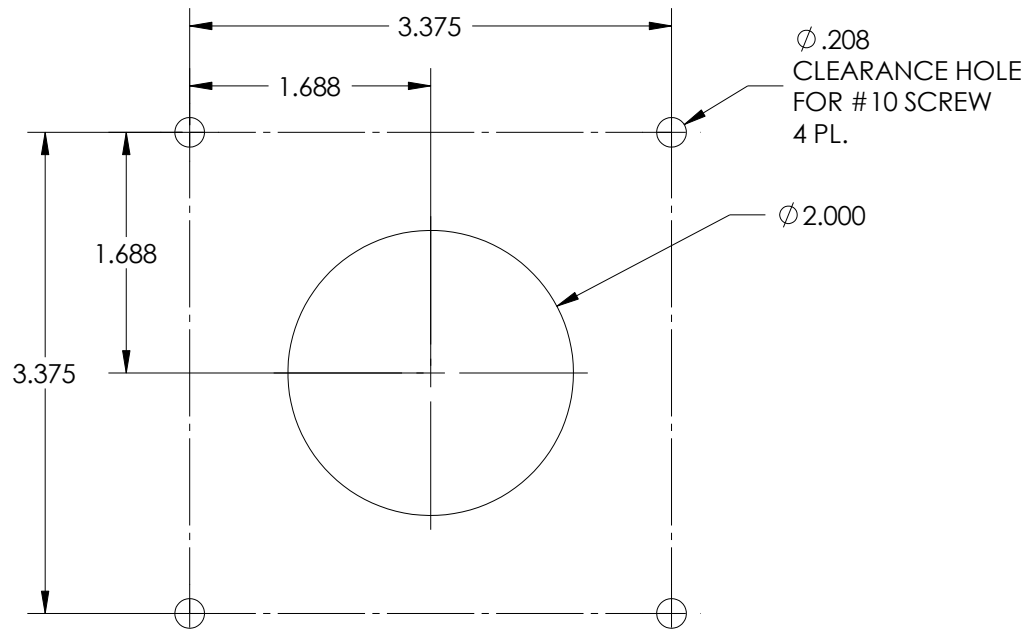

Figure 7 – Command & Control Center Mounting Pattern
- a. Create hole pattern as shown in Figure 7.